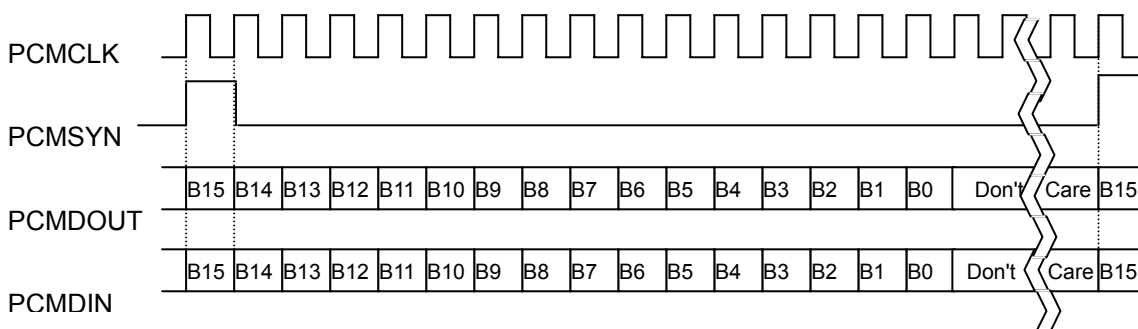

Figure 27-1 Short Frame SYN Timing (Shown with 16bit Sample)
- 1 Figure 27-1 shows a PCM transfer with the MSB configured to be coincident with the PCMSYN.